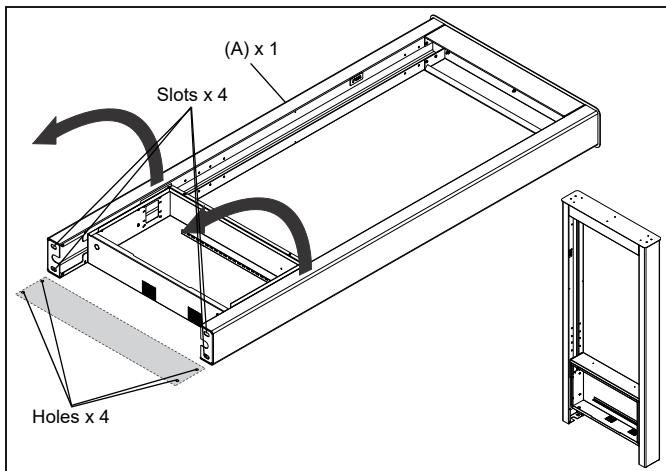

**Figure 4**
**NOTE:** Make sure rear cover (C) of kiosk frame (A) and all loose hardware and installation components have been removed and set aside before mounting the kiosk.
1. Install four interface plates (Y) to inside of kiosk frame (A) using four 10-24 x 1/2" screws (P) per plate.
**NOTE:** The orientation of the plates installed towards top of the kiosk frame (A) is opposite of the plates installed towards the bottom of the frame. (See Figure 4)